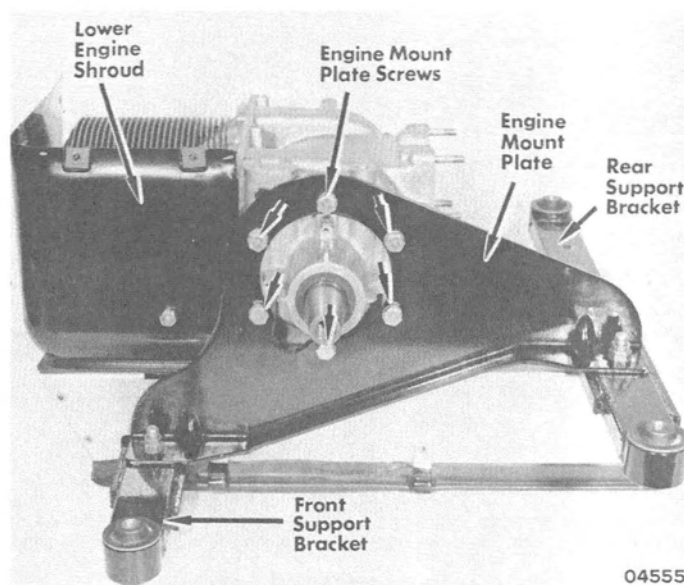

Figure 1. Mounting Plate and Brackets
2. Remove screws and lockwashers which fasten engine mount plate to crankcase. (Figure 1)
4. Remove lower engine shroud. (Figure 1)